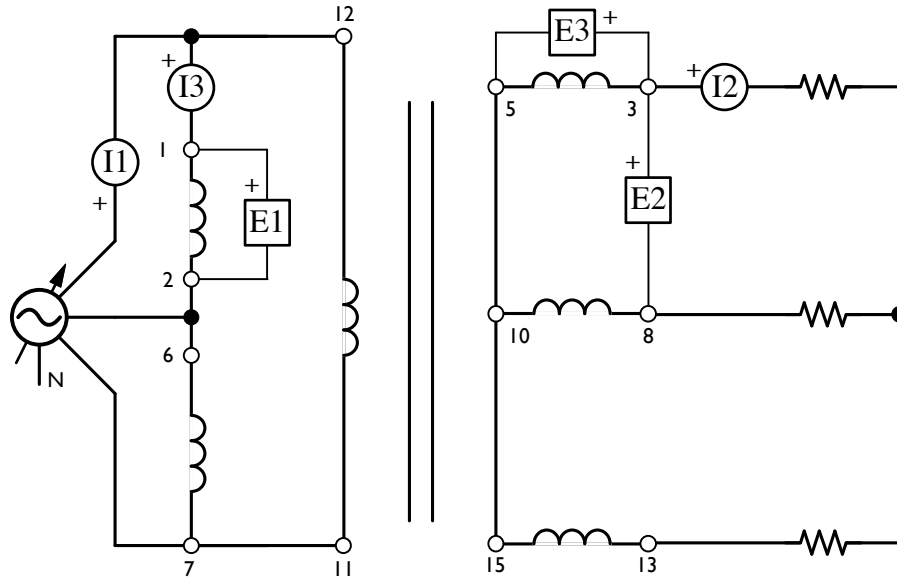

Figure 2.7: Three-Phase Transformer Connected in Delta-Wye. Note: construct circuit without meters.
- 43. With the power off, connect the Three-phase Transformer module in the  $\Delta - Y$  configuration shown in Figure 2.7, however do NOT include the voltmeters or ammeters until the instructor has checked your circuit. Set the load resistors to **300  $\Omega$**  each. Since all load resistors have the same resistance, the load is a *three-phase balanced load*. Under these conditions, the rms voltage and current values are the same in all three phases.